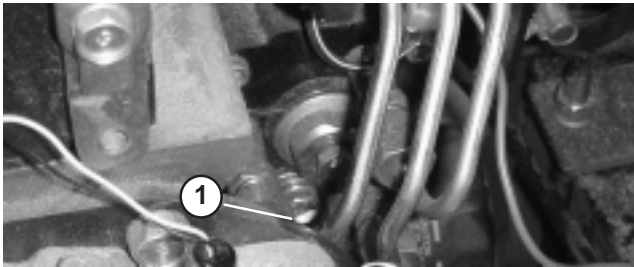

Figure 26
3. Open the air bleed screw on the fuel injection pump (Fig. 26) with a 10 mm wrench.